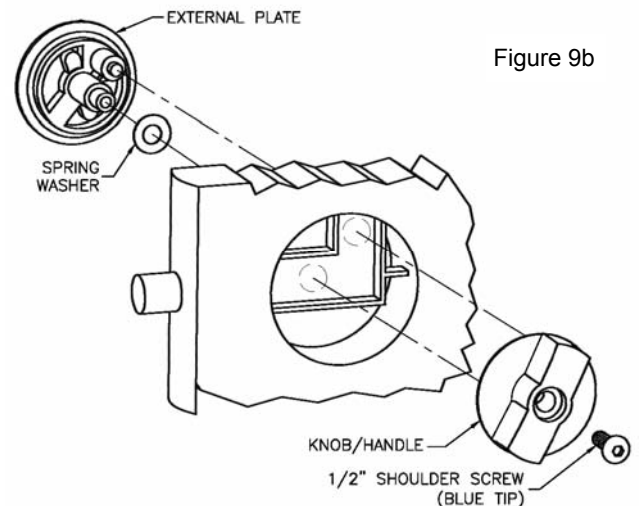

Figure 9b
- f. Mount external plate and knob. Remove clear plastic retainer holding spring washer in place on the post of the external plate. Insert the external plate into door as shown in Figure 9b, with the shorter post inserted into the upper pocket of the internal latch mechanism. Mount the knob/handle on the inside of the door and engage it with both the center post and the shorter, off-center post of the external plate. Insert $\frac{1}{2}$ " shoulder screw with blue tip through the knob/handle and tighten until snug. Check for proper operation of knob and latch pin before final tightening.
- g. Locate strike/keeper on the latch-side pilaster so the latch pin engages with it when the door is closed. Drill ($\frac{1}{4}$ " bit) mounting holes and secure strike/keeper to pilaster using thru bolt (1), with black rubber bumper facing out for outswing doors and in for inswing doors.